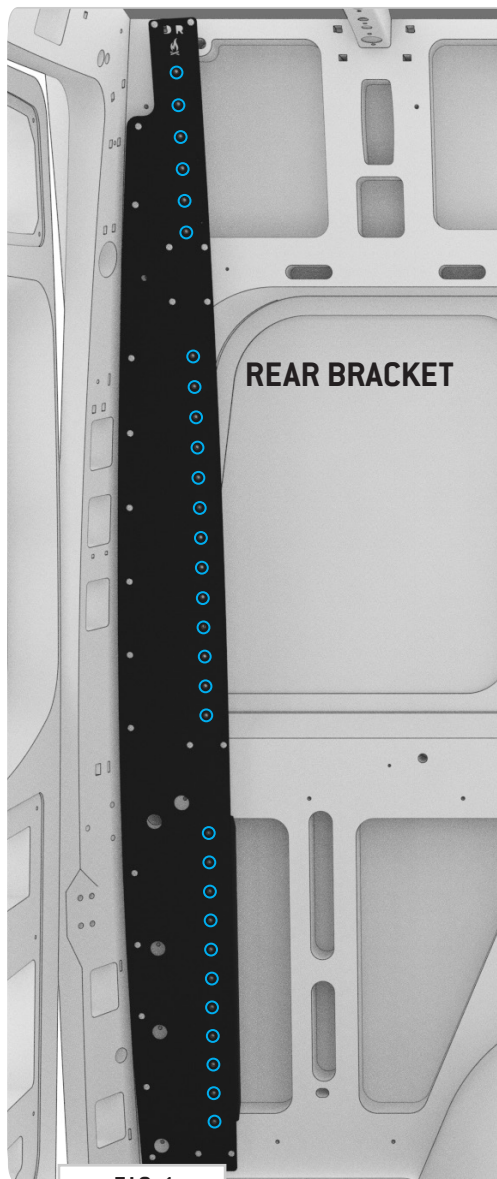

FIG 1
1.1 Identify Mounting Locations: Find the pre-threaded holes highlighted blue in FIG 1 and 2 that you'll use to install your L-Track Kit to FVC Sprinter Bed Brackets.